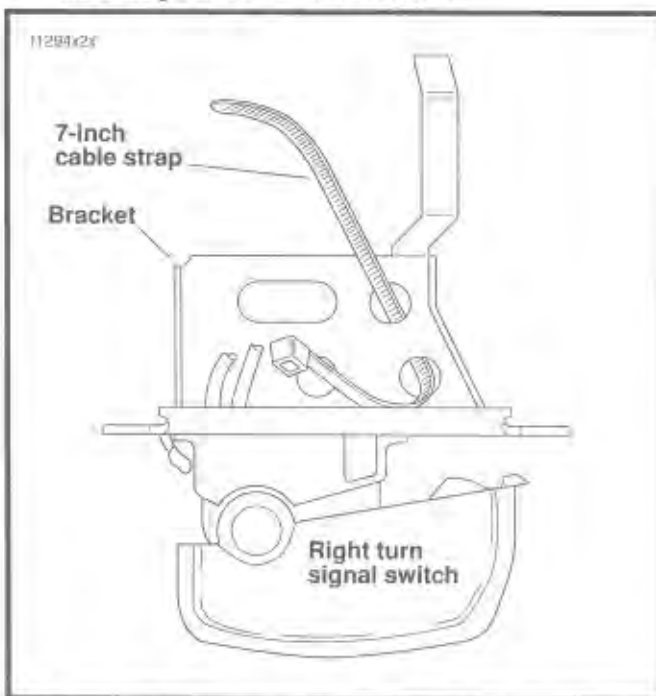

Figure 7-80. Insert Cable Strap in Switch Bracket
1. See Figure 7-80. Insert tapered end of new 7 inch cable strap into round hole in turn signal switch bracket and then feed back through using the adjacent hole. Reserve the oblong hole for the bracket screw.